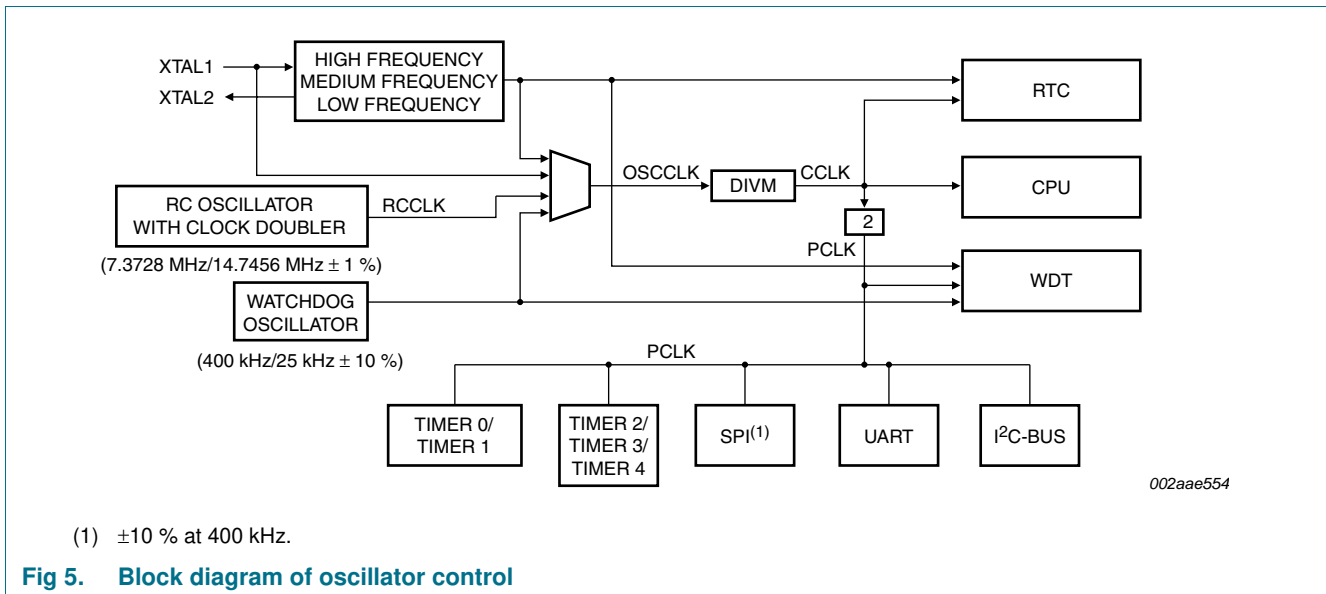

Fig 5. Block diagram of oscillator control
**OSCCLK** — Input to the DIVM clock divider. OSCCLK is selected from one of four clock sources (see Figure 5) and can also be optionally divided to a slower frequency (see Section 7.11 “CCLK modification: DIVM register”).